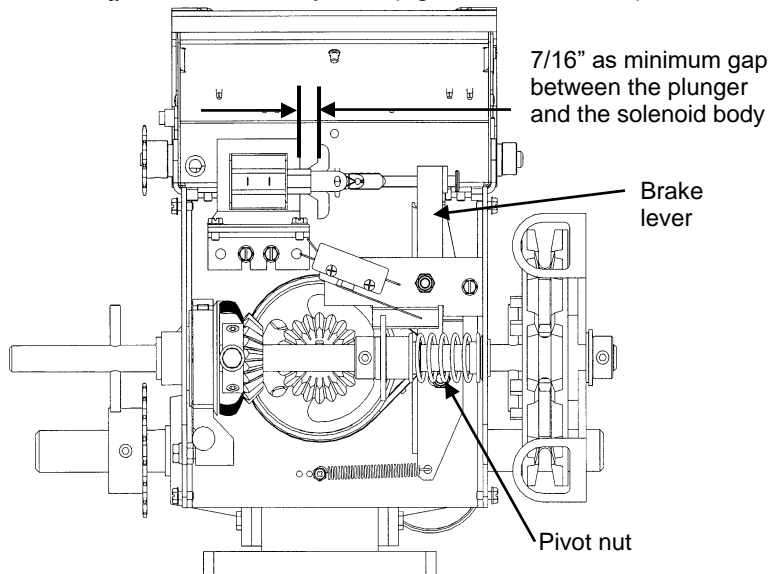

Figure 15 Brake system (front view)
2. Slightly unscrew the pivot nut using the appropriate key ( $7/16''$ ) or a nut driver (Figure 15).
4. The gap between the plunger and the solenoid body should measure  $1/4''$  to  $3/8''$  wide (Figure 15).